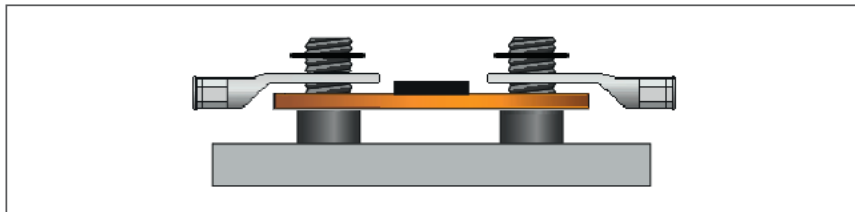
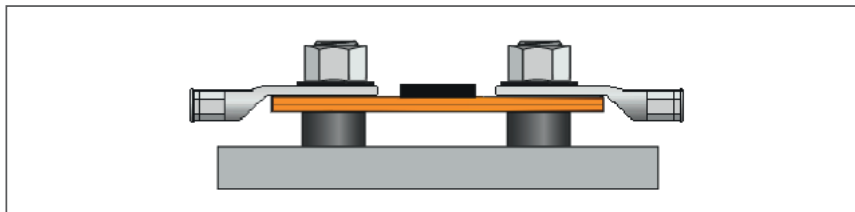

Fig. 5-7: HV- power cables, placing the ring terminals and the washers on the threaded bolts
Fig. 5-8: HV- power cables, fasten the ring terminals using the M8 nuts
The ring terminals are placed on the threaded bolts as shown in Fig. 5-7 and Fig. 5-8 and fastened with M8 nuts and washers.
- ☞ Place the ring terminals on the threaded bolts as shown in Fig. 5-7.